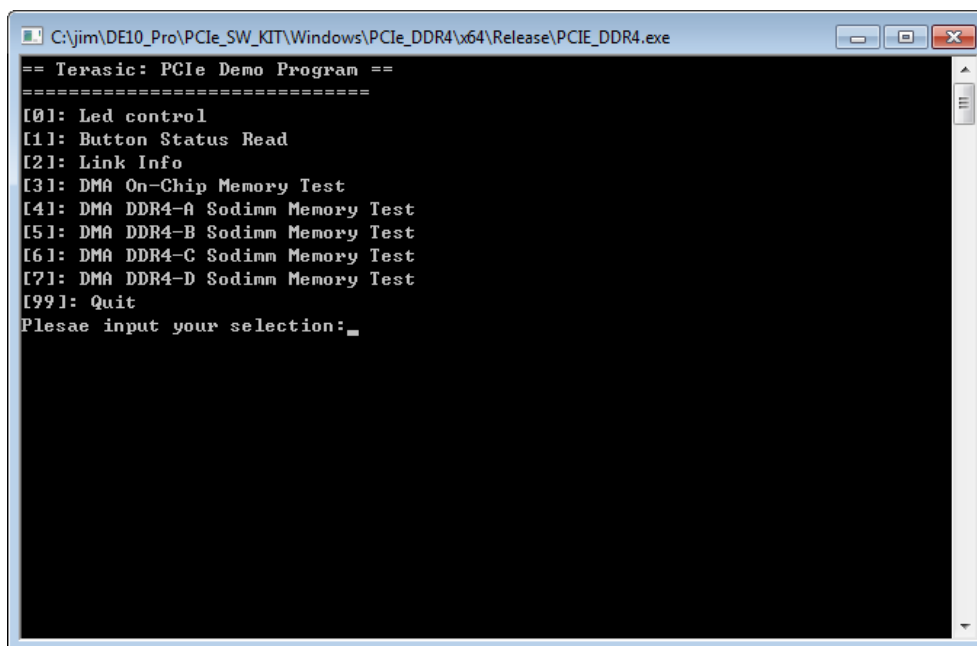

Figure 7-16 Screenshot of Program Menu
7. Go to windows_app folder, execute PCIE_DDR4.exe. A menu will appear as shown in **Figure 7-16**.